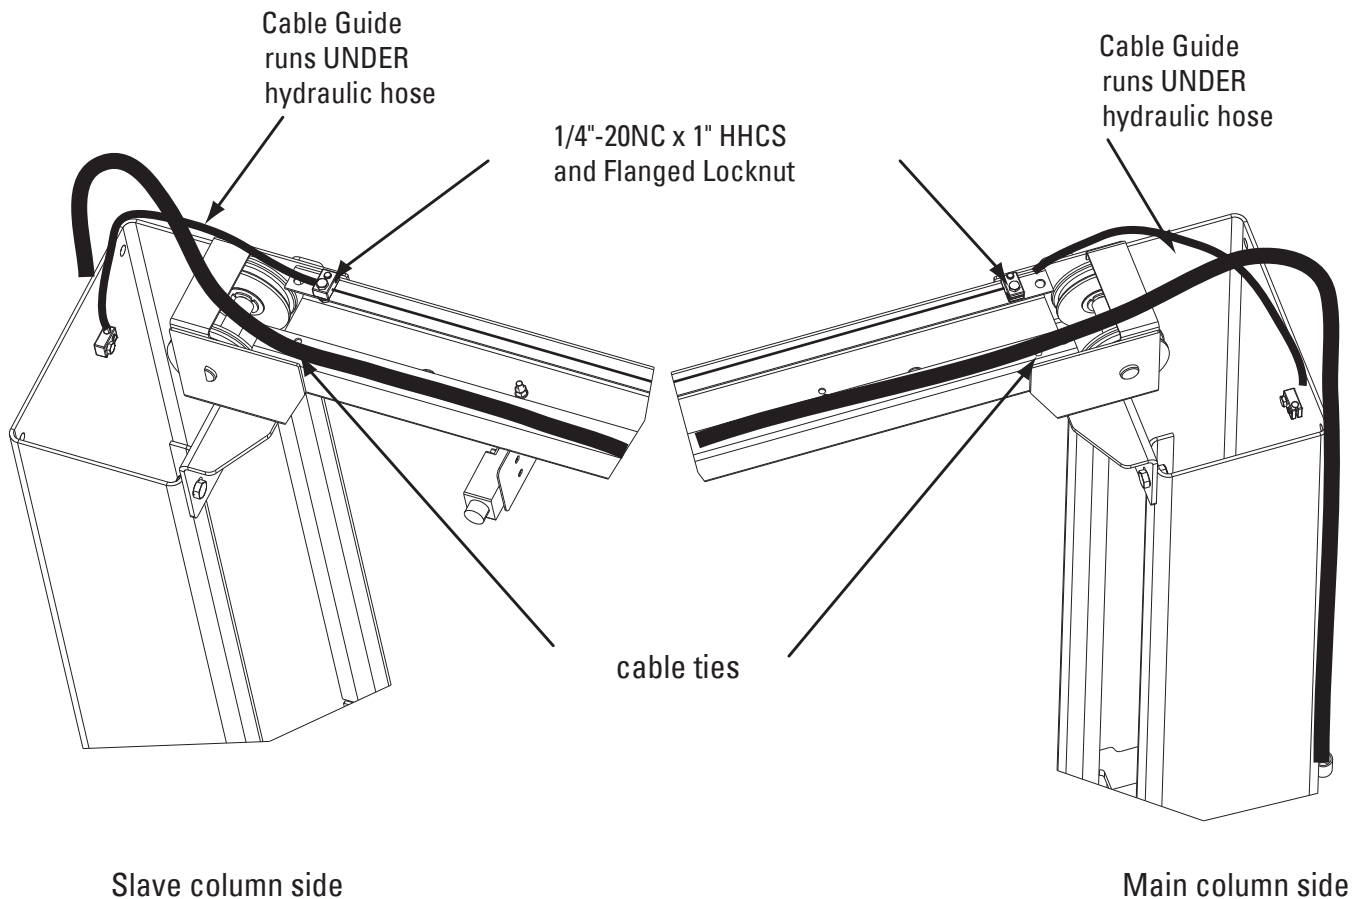

Fig. 13
- C) Feed the other end of the cable through the latch cable sheave slot making sure that the cable is running under the bottom side of the latch cable sheave and inside the right column, Fig. 13.
- D) Attach latch cable conduit guide brackets to overhead as shown, Fig. 13.
IMPORTANT Using cable ties provided, tie off hydraulic hose snug to cylinders to keep hose away from equalizing cable, Fig. 13.